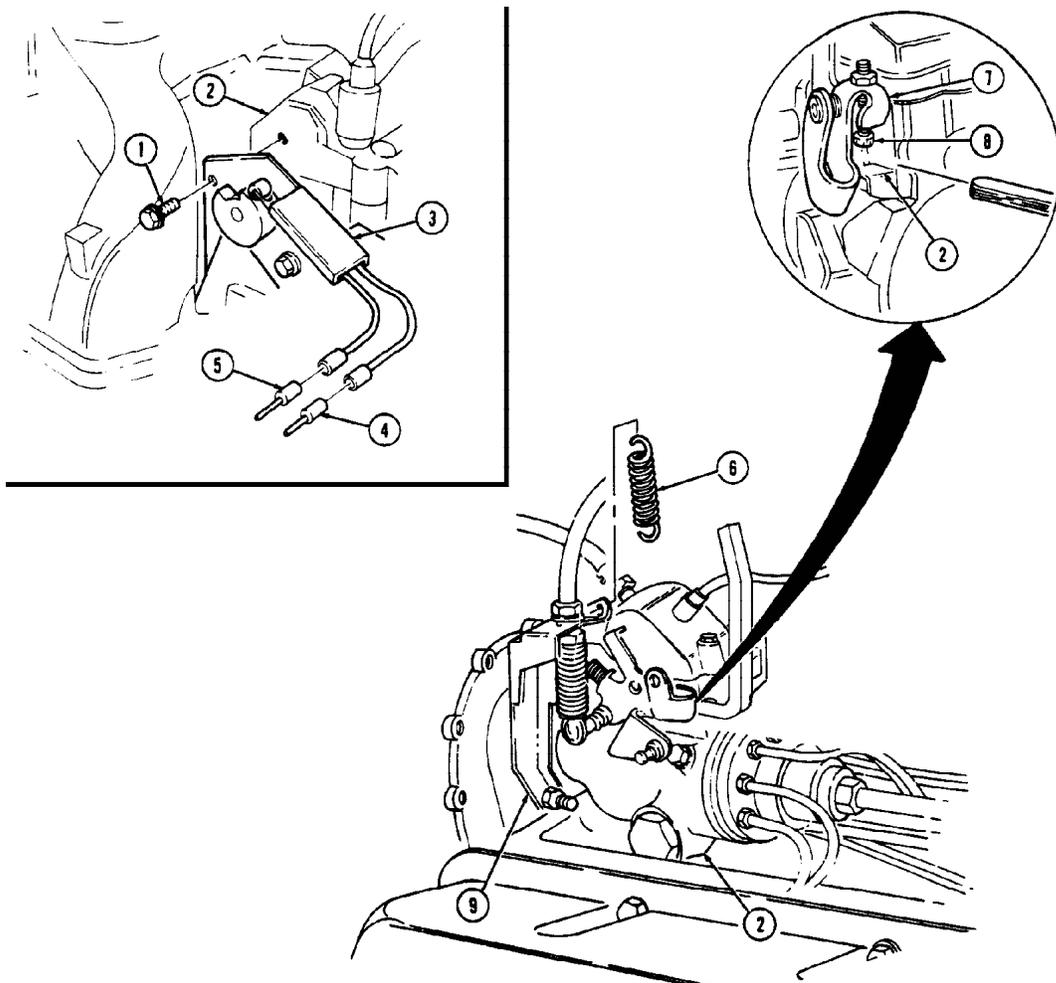

Figure 6-9. Kick-down Switch Adjustment.
F. TRANSMISSION KICK-DOWN SWITCH TEST & ADJUSTMENT (Figure 6-9)